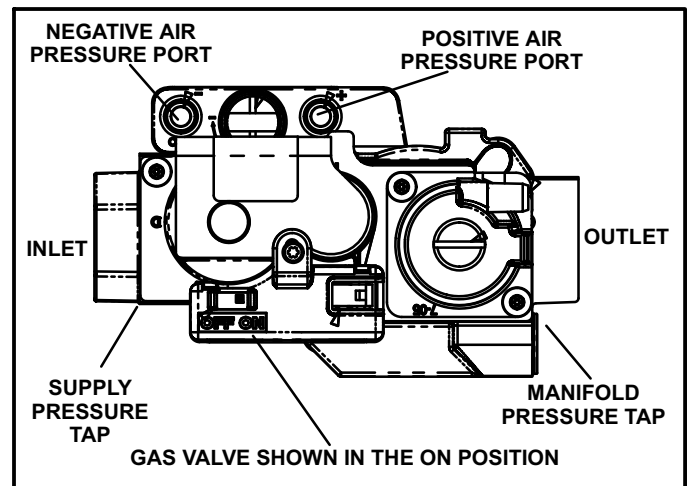

FIGURE 48
Gas Valve Operation (Figure 48)
- 6 - Move the gas valve switch to the **OFF** position. See figure 48.
- 8 - Move gas valve switch to the **ON** position. See figure 48. Do not force.
When testing supply gas pressure, connect test gauge to supply pressure tap on the gas valve. See figure 48. Check gas line pressure with unit firing at maximum rate. Low pressure may result in erratic operation or underfire. High pressure can result in permanent damage to gas valve or overfire. See table 27 for operating pressure at unit gas connection (line).